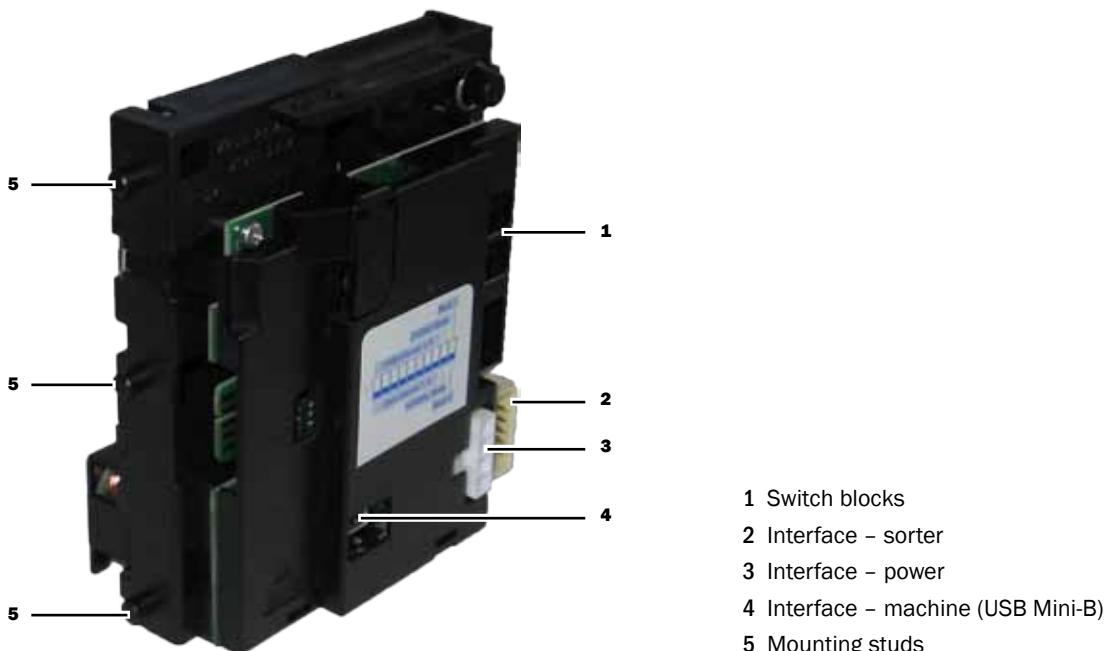

Fig. 8: Installation
- 1 If necessary make individual settings via the switch blocks [Fig. 8/1] (cp. Chap. "7 Operation", p. 24).
- 3 Connect the sorter, if any, to the coin validator using the 10-pin sorter interface [Fig. 8/2]
- 4 Power the coin validator using interface [Fig. 8/3]
- 5 Connect the coin validator to the machine using the USB Mini-B interface [Fig. 8/4].
- 6 Hang up the coin validator in the machine using the lateral mounting studs [Fig. 8/5].